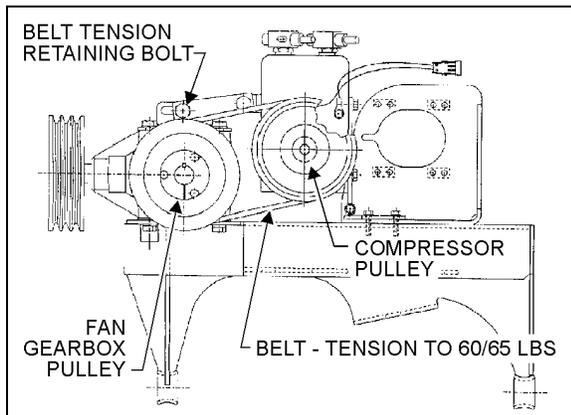

FIGURE 26: A/C COMPRESSOR (DRIVER'S OR AUXILIARY SYSTEM)
4. Tighten belt to 60/65 lbf•in (6,5/7 N•m) (Fig. 26), using a belt tension gauge, as per "Instruction Sheet IS94056", then tighten tension retaining bolt.